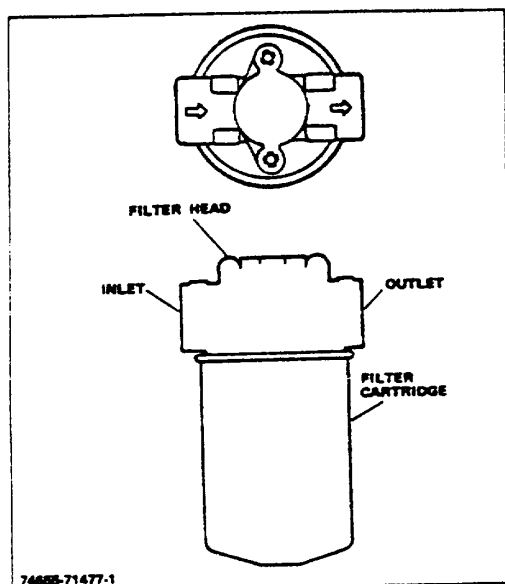

Figure 1-4. Hydraulic Oil Filter (Type B)
- b. Unscrew and remove cartridge (Figure 1-4) from filter head. Discard filter cartridge.